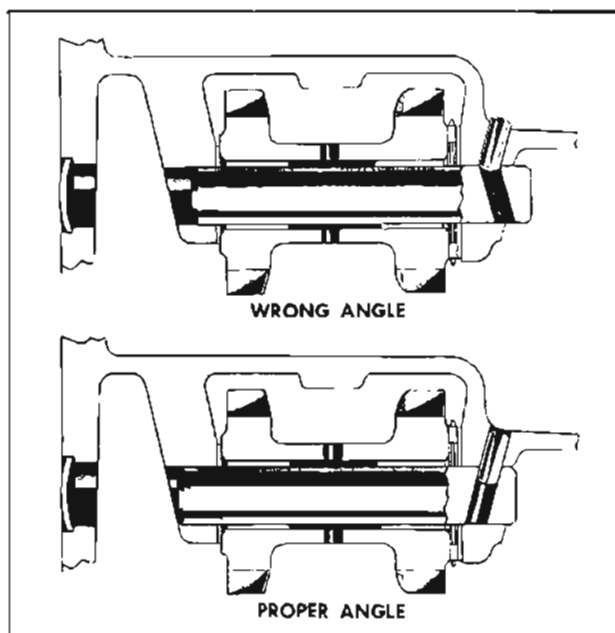

Fig. 7-120 Reverse Idler Gear Shaft and Lock Pin
1. Coat thrust washers and the needle thrust bearing with grease and position them on gear; needle bearing against end with chamfered gear teeth; large washer against bearing; small washer at opposite end of gear. (Fig. 7-120) Coat bushings with transmission lubricant.